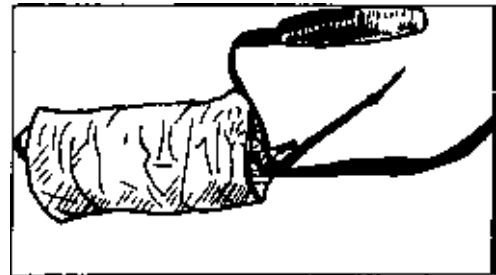

Figure 2
Step 2 Fold the pilotchute in an organized manner so that the mesh is protected by the canopy fabric and the bridle and handle is exposed. *Figure 2*